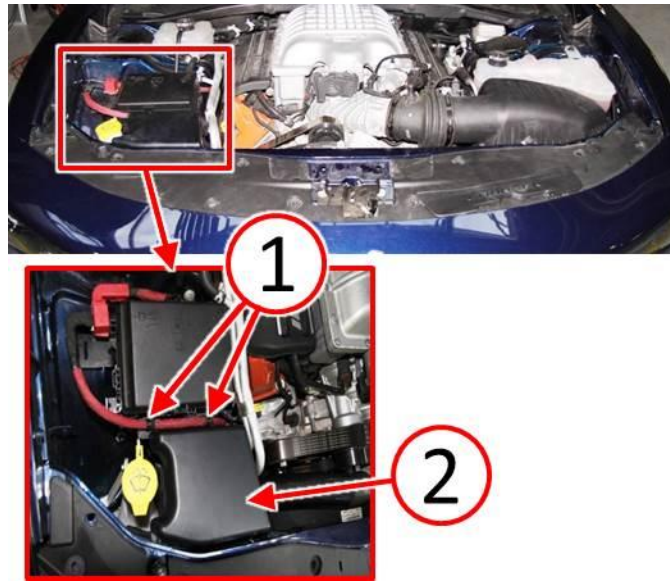

Fig. 24 Install ABS Module Cover
57. Install the ABS Module cover (2) (Fig. 24).
58. Install the two push pin connectors (1) that wrap around battery cable and capture tabs on ABS Module cover (Fig. 24).